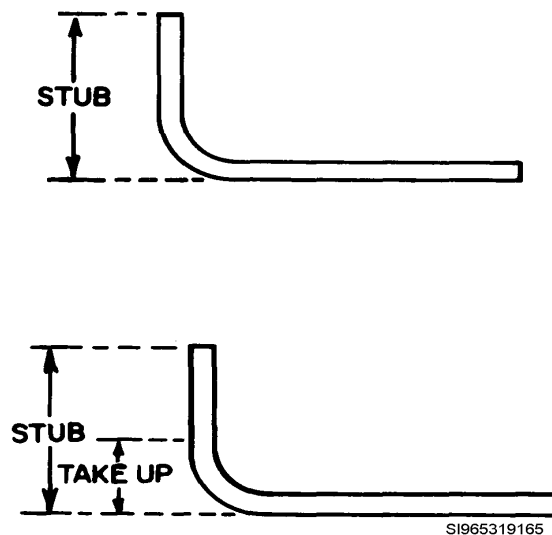
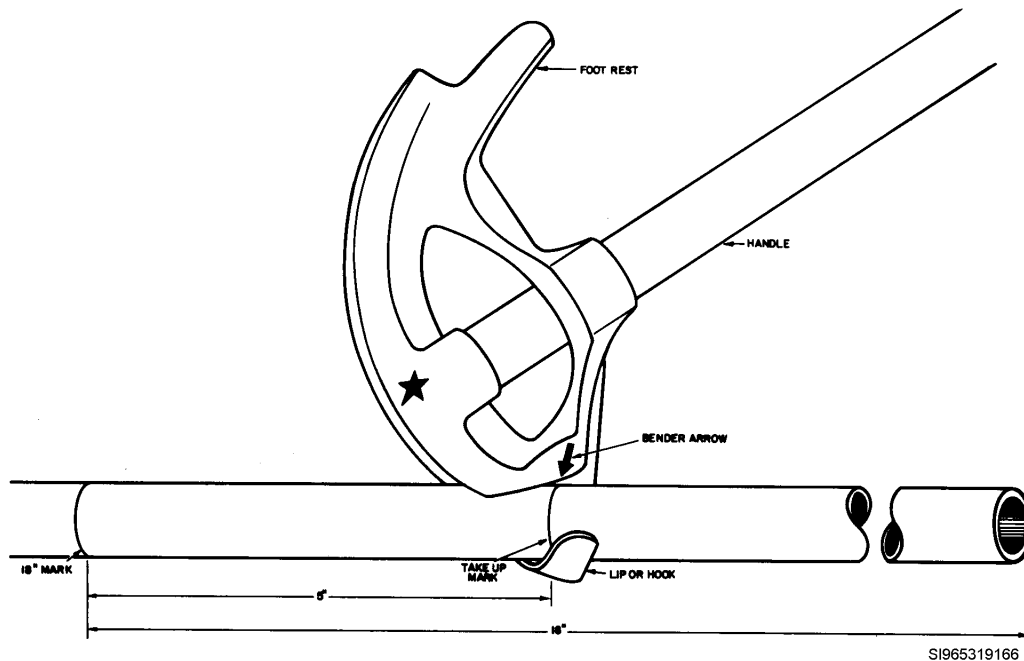

Figure 1. Conduit take-up and stub
Figure 2. Alignment of arrow and take-up mark for bending 90 degrees.
- Anyone can make a 90° bend in a stick of conduit and then cut it off to make it fit the situation, but this practice wastes time and material. The secret is to find out where the bend is needed, mark the conduit accordingly, and make the bend in the right place. This practice will save time and material. Before you can determine where to place your bender on the pipe, there are some things you must know. First, the distance from the end of the conduit to the back of the 90° bend is called the stub length or simply the stub (See figure 1). Second, the radius of the bend takes up a part of the stub. This part of the stub is called take-up, and is shown in figure 1. The amount of the take-up depends on the type and size of the conduit you are bending (See figure 2).
Measure from the top of the panel to the ceiling. This gives you the stub length. Assume this length is 18 inches. Measure 18 inches from the end of the conduit and make a mark at this point as shown in figure 1. Next, look at figure 2 to find the take-up inches back toward the end of the conduit from your first mark and make a second mark.